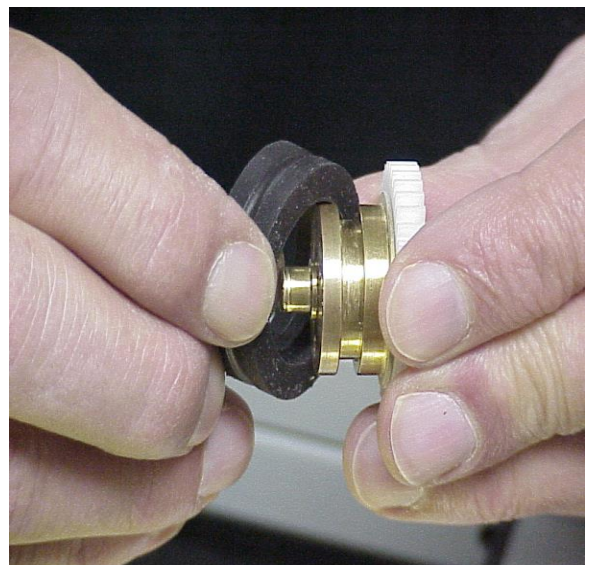

Figure 42
13.5.2.7 Remove Upper Drive Wheel by peeling it from hub. **See Fig. 42.**